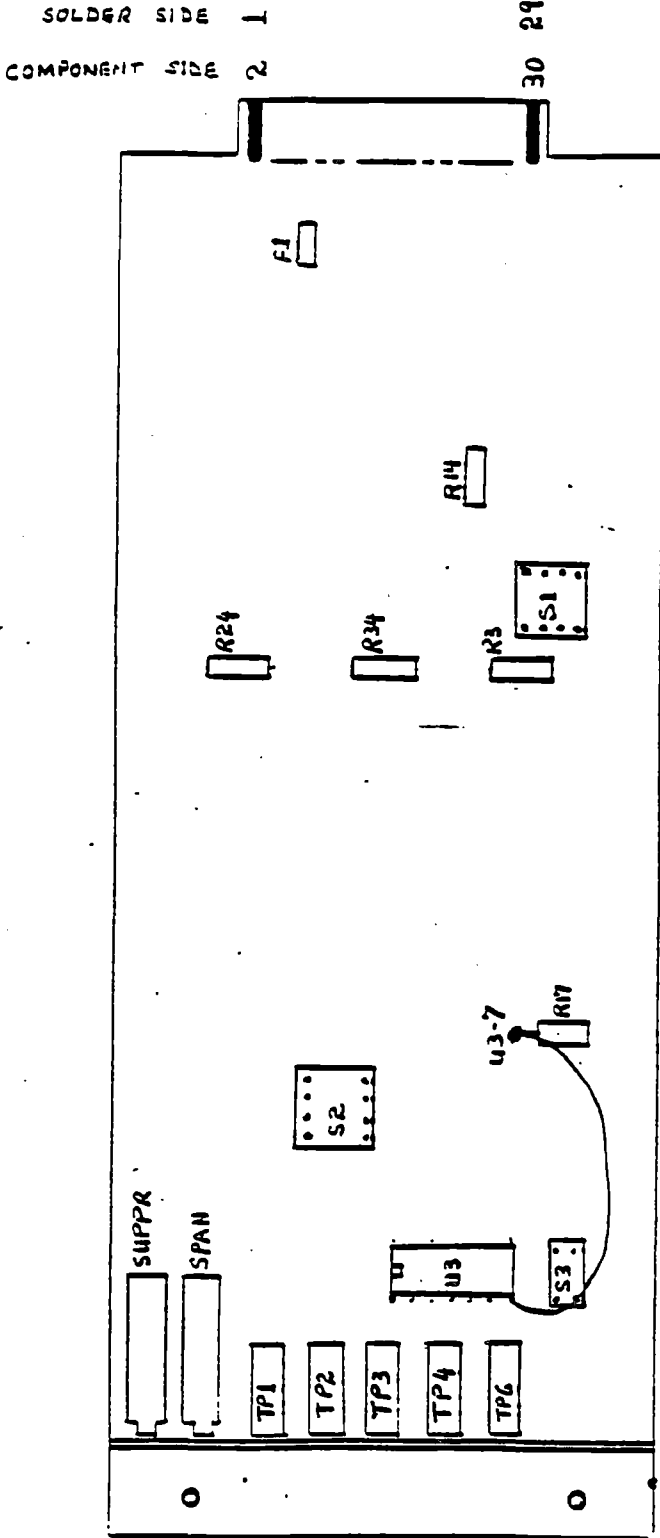

FIGURE 1. DI-325-Q2 PARTS LOCATIONS.
- 3.2 Refer to Figure 1 and visually inspect R3, R14, R24 and R34. These resistors should be 10K ohm each.
- 3.3 Visually inspect fuse F1 for current rating. It should be rated at 3/8A (Figure 1).
- 4.2 Refer to Figure 1. Set S1-1 thru S1-4, S2-1 thru S2-4 and S3-1 thru S3-2 to open position.
- 5.1 Measure DC voltage at U3 Pin 7 (location on Figure 1), and record for reference  $E_{10V} = \underline{\hspace{2cm}}$ .  $E_{10V}$  should be  $+10.0 \pm 0.5$ -Vdc.